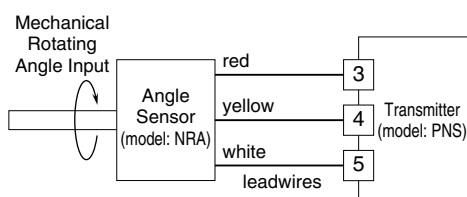

Figure 3. Wiring diagram for connecting the NRA to the PNS.
- M-System Angle Sensor Transmitter (Models: PNS, PNT, etc.) is recommended for connection. Wiring diagram is as shown in Figure 3.